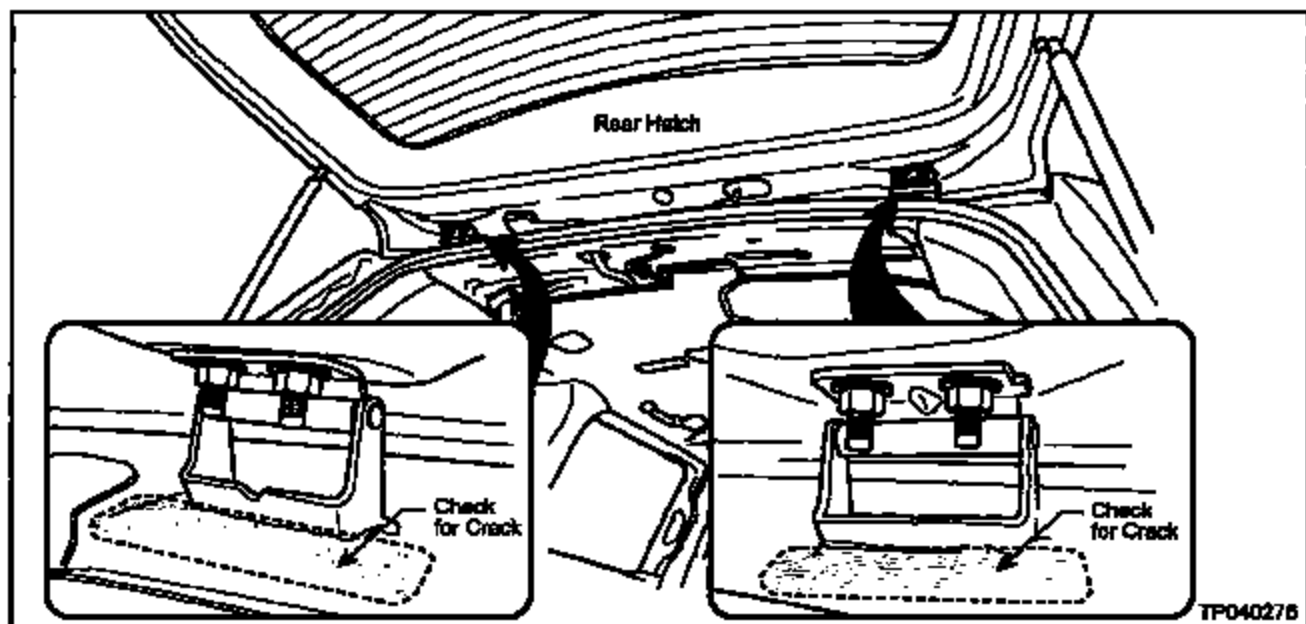

Figure A1
2. Inspect the painted sheet metal surface directly behind (towards the rear of vehicle) each Hinge for crack(s). See Figure A1.